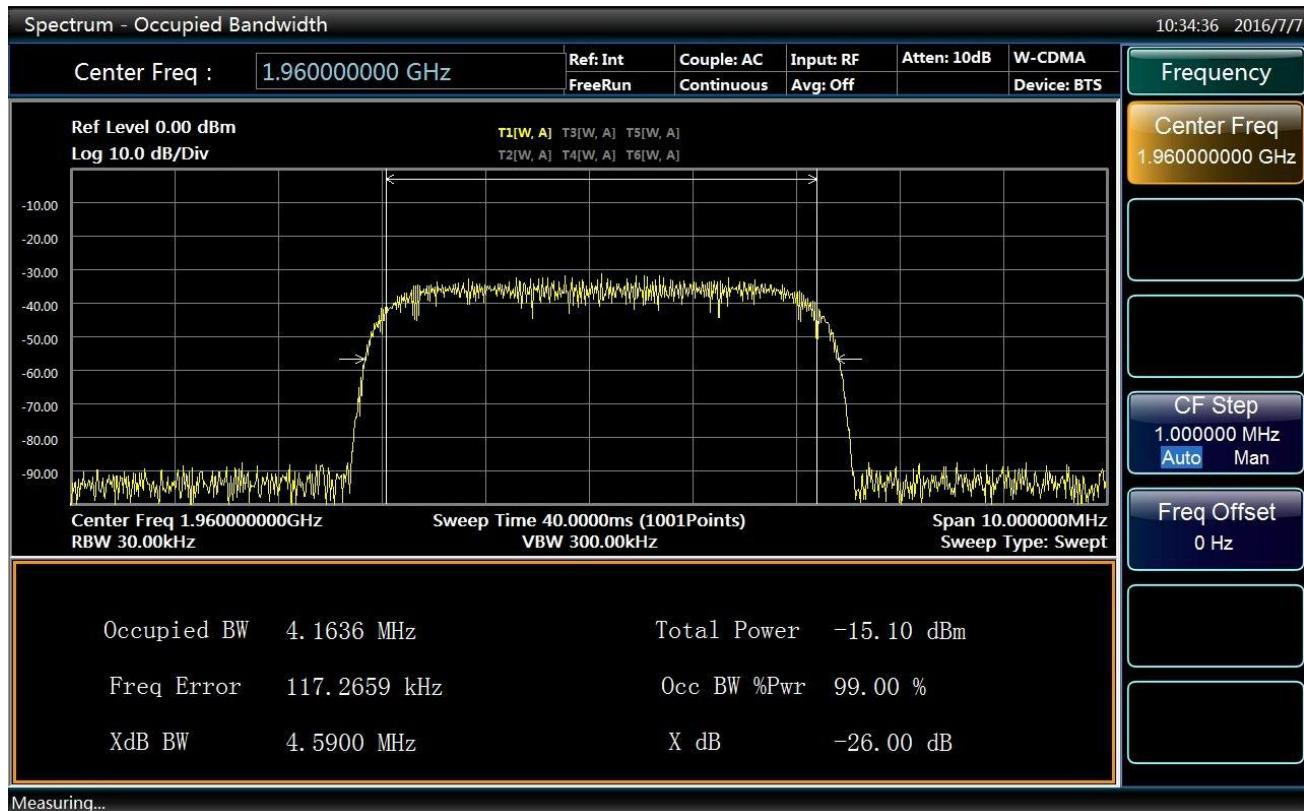

Fig. 4.64 Results of occupied bandwidth measurements
- Results of occupied bandwidth measurements are shown in Fig. 4.64.